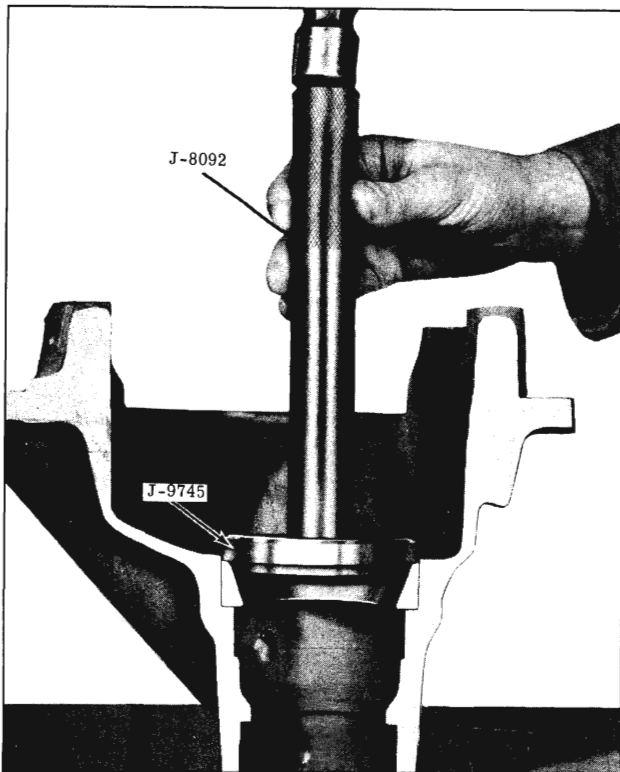

Fig. 6-29 Installing Rear Bearing Outer Race
1. Press outer race of rear pinion bearing firmly in place against shoulder in the carrier. (Fig. 6-29)